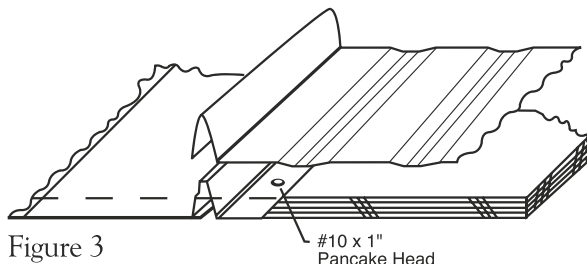

Figure 3
4. Align the second panel female edge with the starter panel male edge. See Figure 3. Panels must be flush to one another. Remember, panels should extend over eave trim by 1".